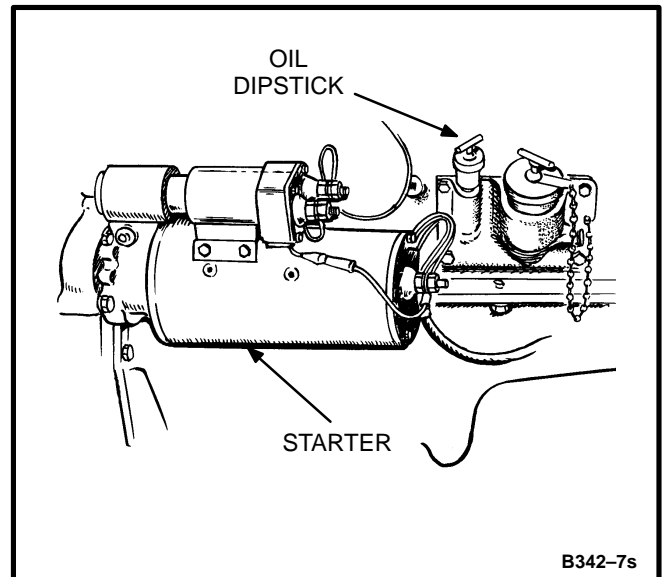

FIGURE 6-3. OIL DIPSTICK LOCATION
2. Fill crankcase to "L" (low) mark on dipstick (Figure 6-3) and refer to *Maintenance* section in Operator's manual for oil recommendations.